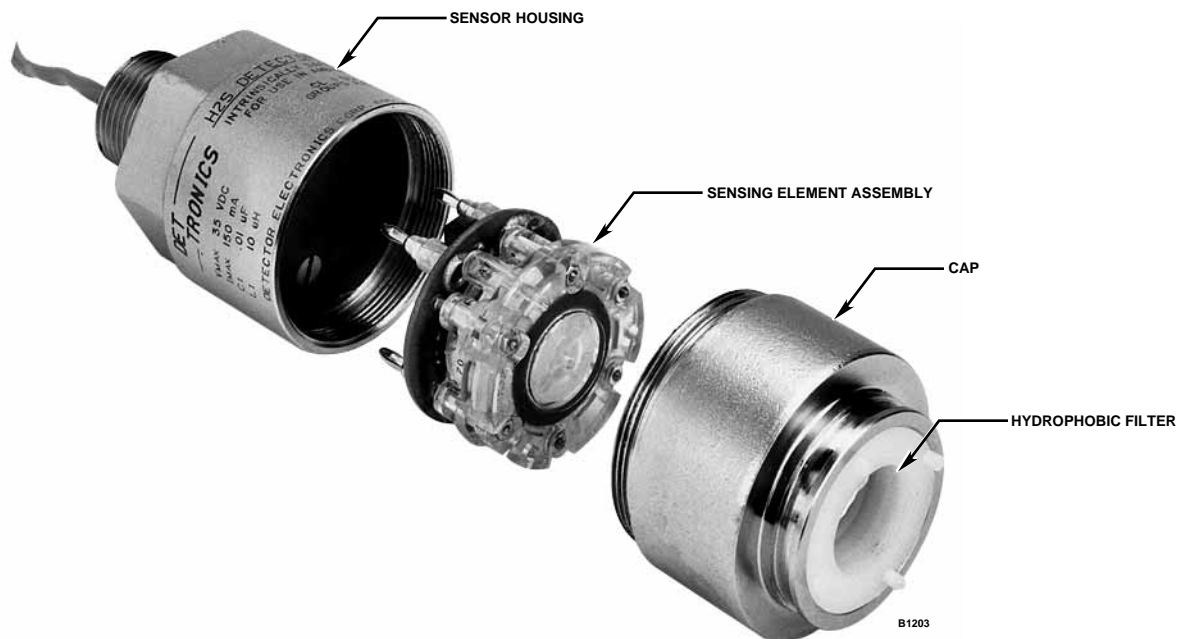

Figure 6—Exploded View of Sensor
4. Remove the cap from the sensor housing. See Figure 6.